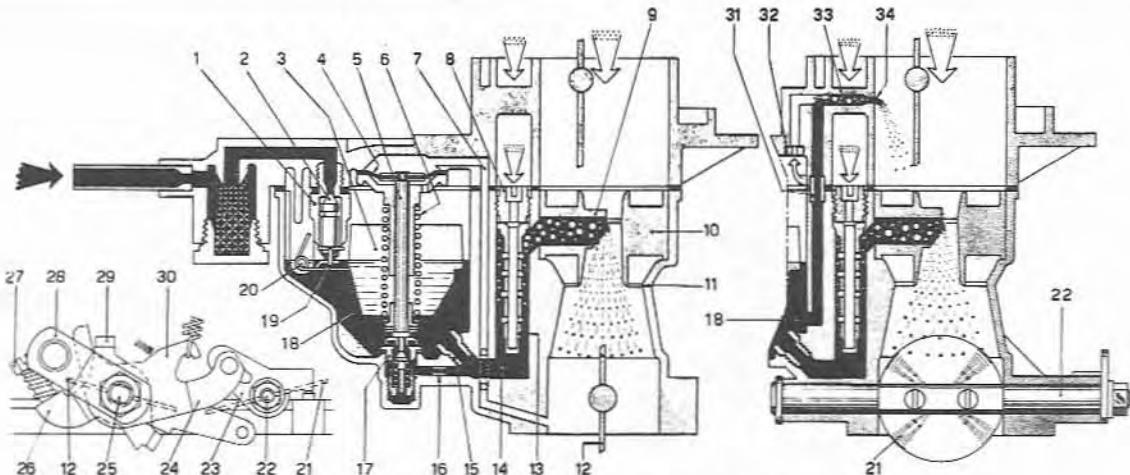

Fig. 7.6 Carburetor normal phase (Sec 3)
main fuel supply circuit is brought into action. Refer to Fig. 7.6 and note that fuel from the float chamber (18) passes through the main jets (15) to the emulsion tube wells (14). At the same time air is drawn through the air corrector jets (8), through the holes in the emulsion tubes (13) and emulsifies the fuel which is then drawn through the nozzles (9) and auxiliary venturis (10). The mixture then mixes with the main air supply as it is drawn